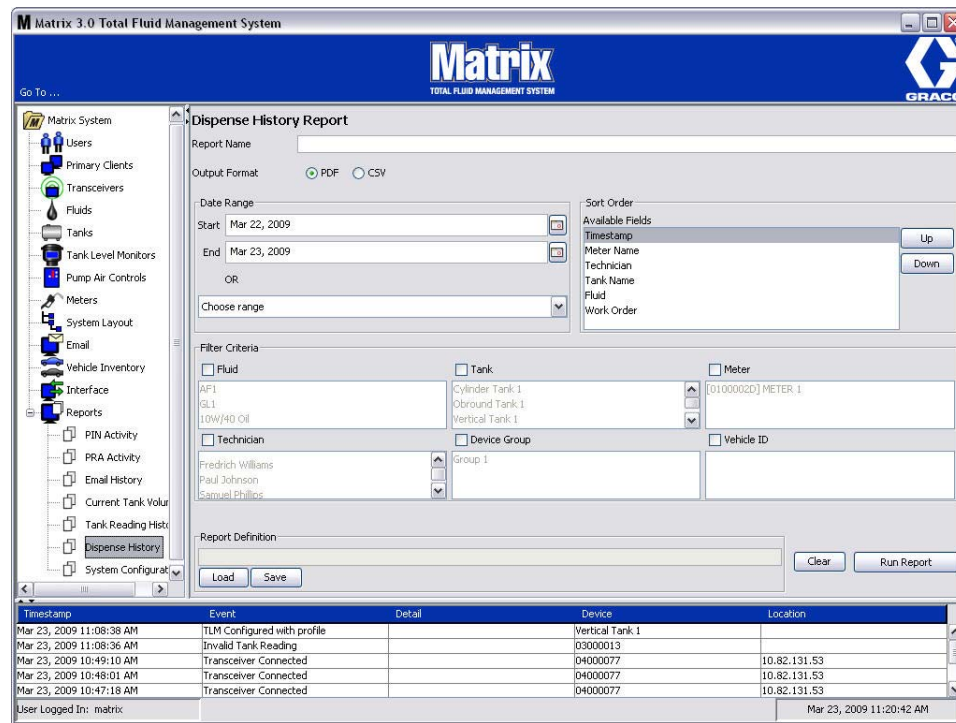

FIG. 189
- **Dispense History (FIG. 189)**